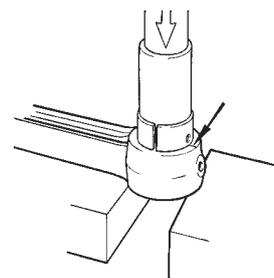

Fig. 48. Fitting of gudgeon bushing
2. Press in the new bushing with the same tool. The bushing is fitted as per Fig. 48.
NOTE! Make sure that the bushing's oil hole corresponds with the hole in the connecting rod. Draw a line over the hole in the bushing and connecting rod with a pen (Fig. 48). Check that the oil channel is open after pressing in.